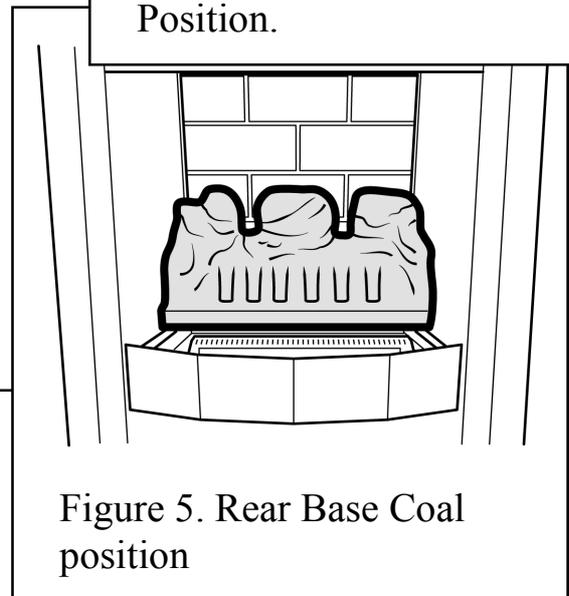

Figure 5. Rear Base Coal position
2. Place the rear base coal in the firebox. It should rest on the ledges at the sides and back of the firebox and its rear face should touch the rear ceramic wall. See figure 5.